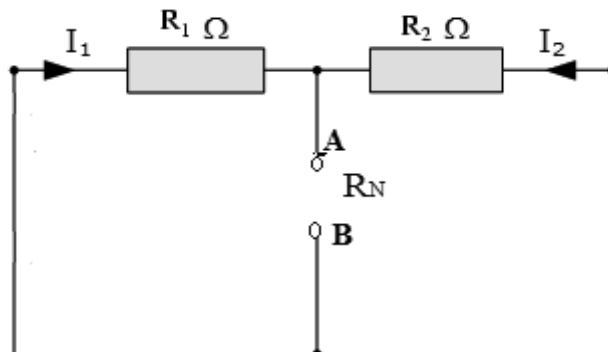

Figure 3
7. Remove both voltage sources by internal resistances or short circuits the terminal of it's and measure the resistance between open terminals A and B (i.e. R_N). As shown in figure 3